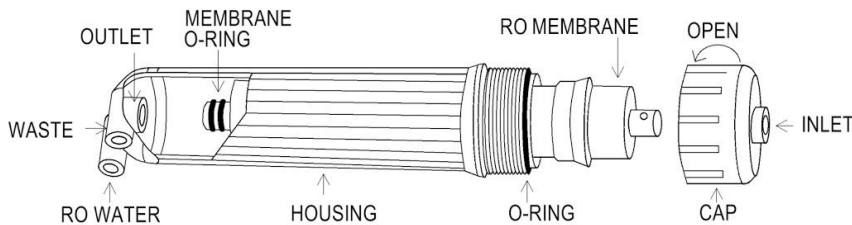

Figure 8
- 6.4 ****Before twisting the housing cap back on, make sure the O-ring is seated at the end of the membrane housing as shown in figures 8 and 9. This is very important to avoid leaking and damage to the O-ring.**